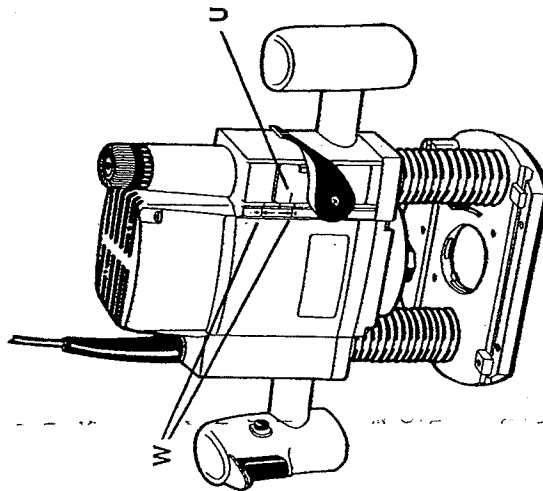

Figure 8
The fine-adjustment mechanism has a total adjustment range of 5/8", which is indicated by the two lines (W) cast into the back of the motor housing. (See Figure 8) Whenever the fine-adjustment is used, be certain that the indicator line (U) is positioned between these lines to ensure that there will be enough travel in the desired direction after the router is plunged into position. For example, if line (U) is directly between the two lines (W), the fine-adjustment would be able to adjust the bit 5/16" up or down, as the full 5/8"